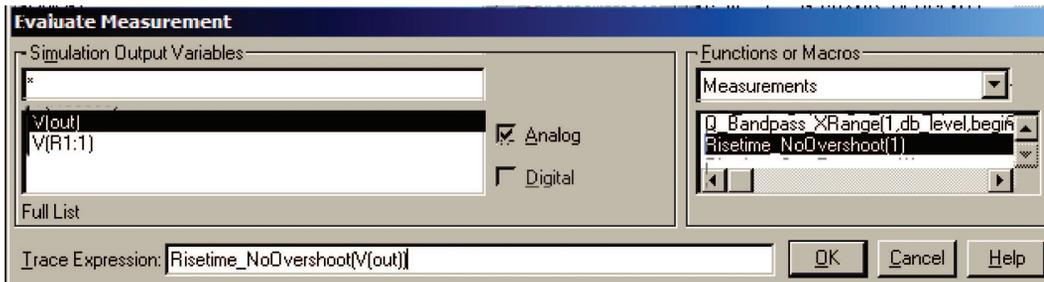

FIGURE 4.23: Evaluate measurement functions
Select **Risetime (1)** from the list of functions in Fig. 4.23 to place it in the **Trace Expression** box.